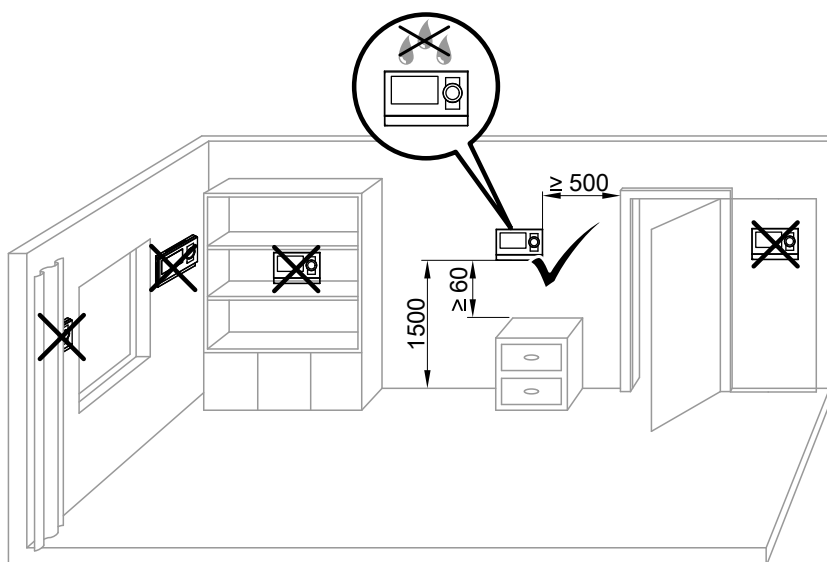

Fig. 1
■ Operation with room temperature hook-up (see Fig. 1)